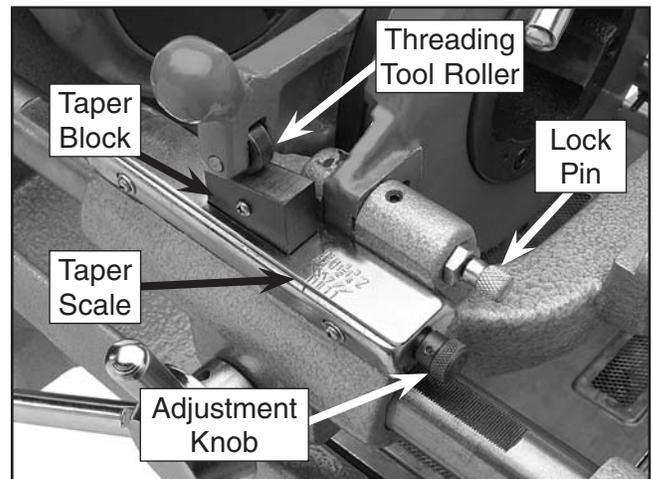

Figure 10. Taper setting scale.
2. Set the taper settings, as shown in **Figure 10**, to match your pipe size.